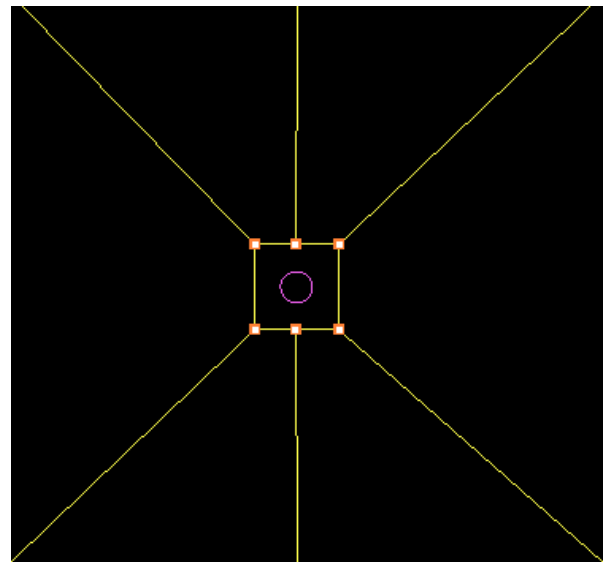

Figure 8.8
- Delete all the edges passing through the cylinder so the final topology can be as seen in figure 8.8.